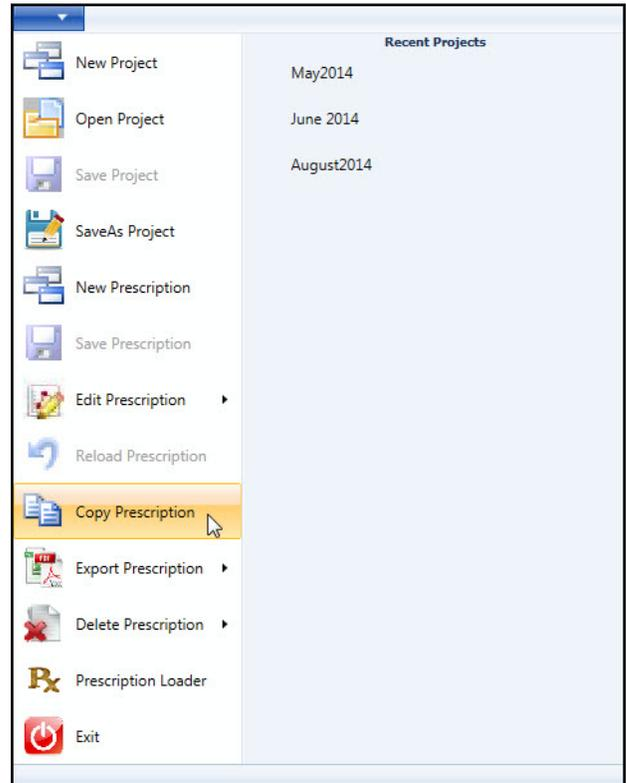

Figure 27-1 Select Copy Prescription
1. Select Copy Prescription in the VRI drop-down menu. (Refer to Figure 27-1.)